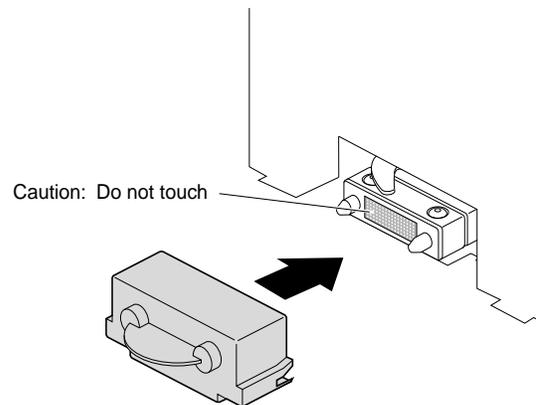

Figure 4-10 Installing a Cap on the Compression Connector
4. Place a cap on the compression connector on the back of the PCI module, as shown in Figure 4-10 (compression connector caps are included with the workstation).